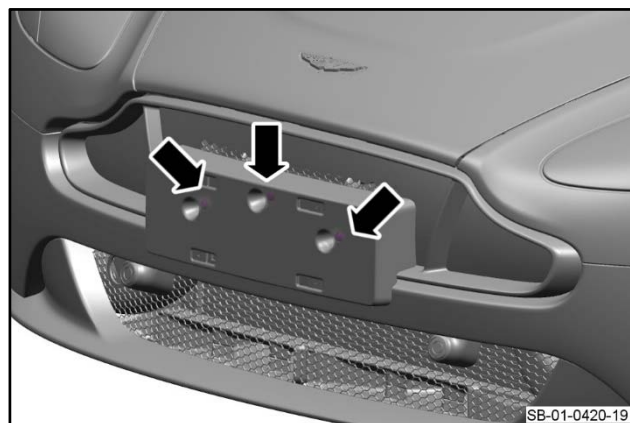

Figure 19
10. Install the three screws that attach the license plate plinth to the bolster plate (refer to Figure 19)